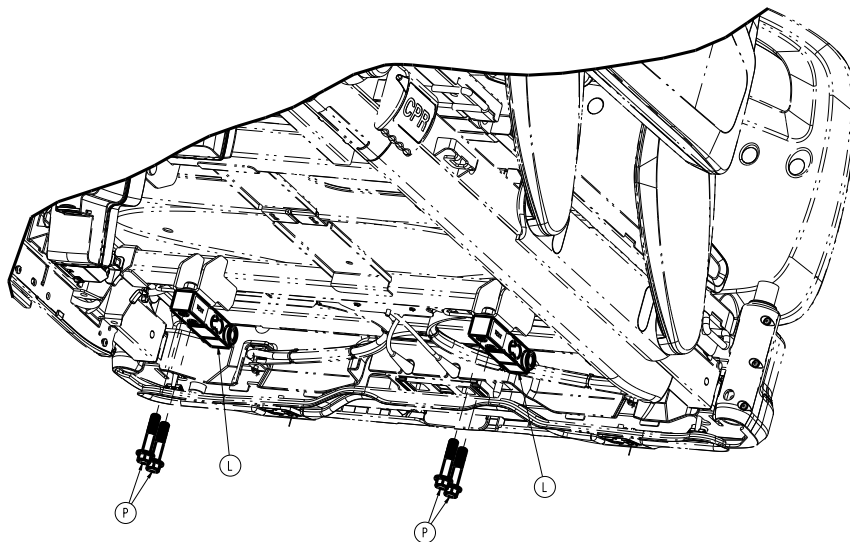

Figure 32 – Replacing the load cell
11. Using a ratchet, 9/16" socket, and a 9/16" wrench, remove the two bolts (P) and nuts that secure the load cell (L) to the litter frame (Figure 32). Save the bolts and nuts. Remove the load cell.